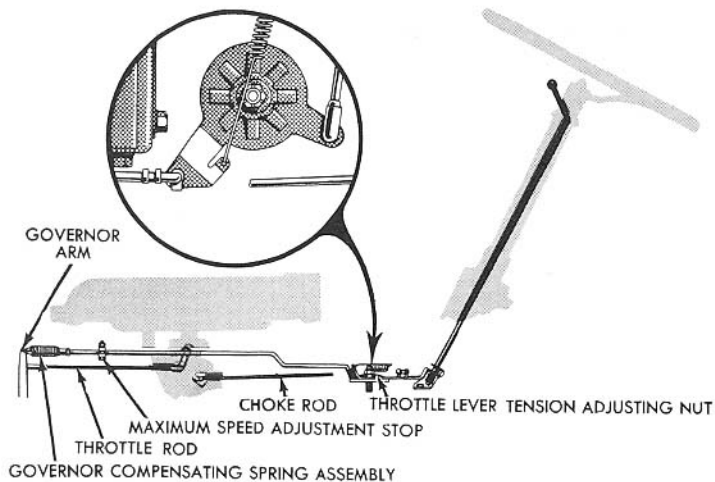

Figure 40
**Governor:** Constant engine speed for any given throttle setting is controlled by the action of the adjustable centrifugal governor, located on the forward end of the crankshaft. As the engine speed is increased, the action of the governor moves the governor arm (see Figure 40) toward the closed carburetor throttle position until a balance between the spring tension and governor action is obtained. Maximum engine speed is controlled by the adjustable stop on the throttle rod, as shown.
**Throttle Lever Position:** After the tractor has been in service, some normal linkage wear occurs. The hand throttle lever may creep toward closed position when driving the tractor over rough ground. The fixed position of this lever is controlled by the tension applied by the spider spring washer on the bell crank, see insert Figure 40. This tension can be increased by removing the cotter pin in the castellated nut and turning the nut clockwise until the desired tension is obtained. After adjustment, reinstall the cotter pin.